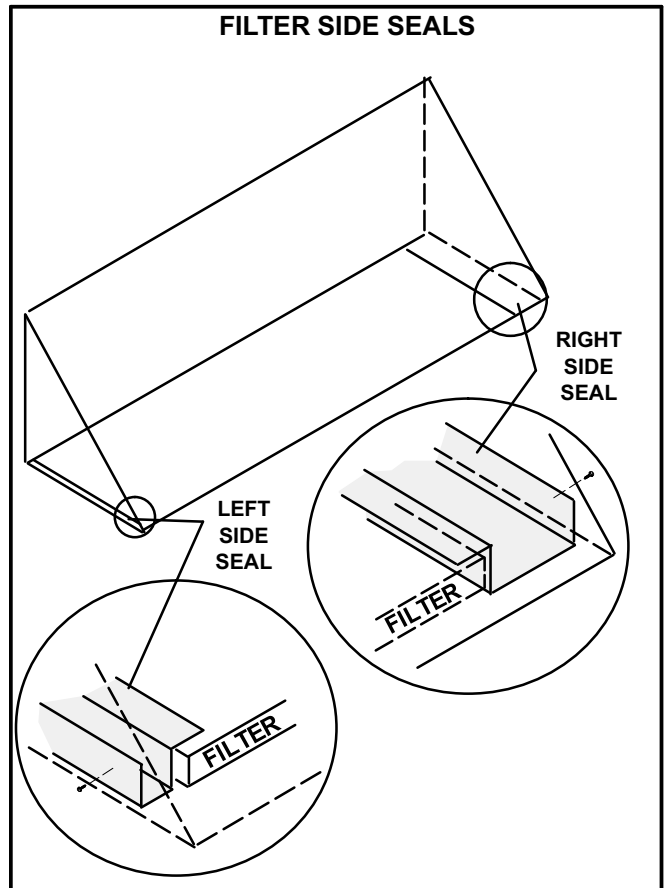

FIGURE 7
- 4- Position filter side seals on hood sides; make sure brackets are on the INSIDE of the hood. Secure with screws provided. See figure 7.